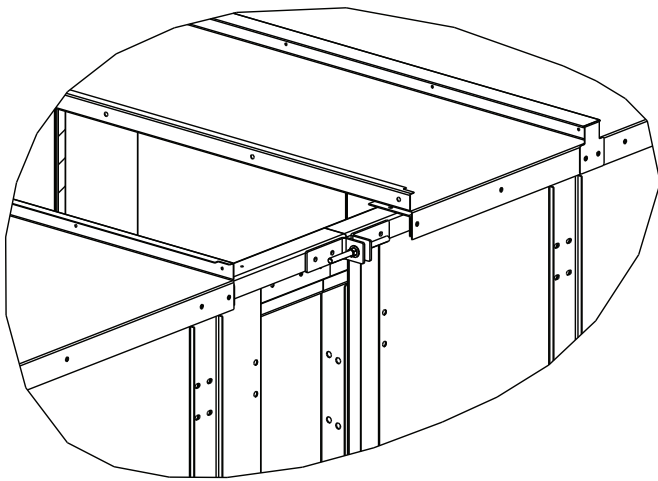

Fig. 40 — Top Rail Brackets
11. Attach (4) brackets to top rails. Using 3/8 in. x 6 in. threaded rods, nuts, washers and backing plates provided, pull the top rails together and secure with top rail guide from Step 5. See Fig. 40. Remove threaded rods and brackets after securing top rail guide.